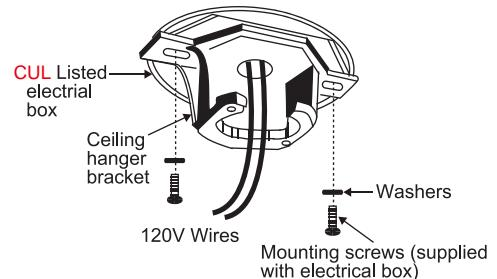

Fig. 8
Step4. Pass the 120 volt supply wires from the ceiling outlet box through the center of the ceiling mounting bracket. (Fig.8)
Step5. Attach the ceiling mounting bracket to the outlet box using the screws and washers included with the outlet box. (Fig.8)